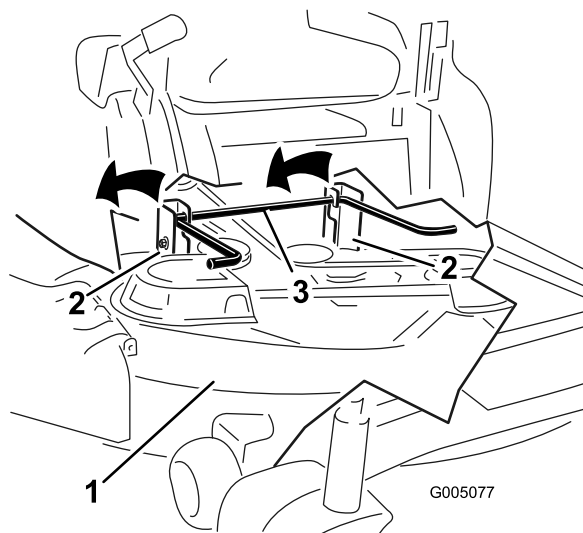

Figure 59
6. Lift the mower deck and hanger brackets clear of the rear lift rod and lower the mower carefully to the ground (Figure 59).
- Lift the rear of the mower deck and guide the hanger brackets over the rear lift rod (Figure 59).